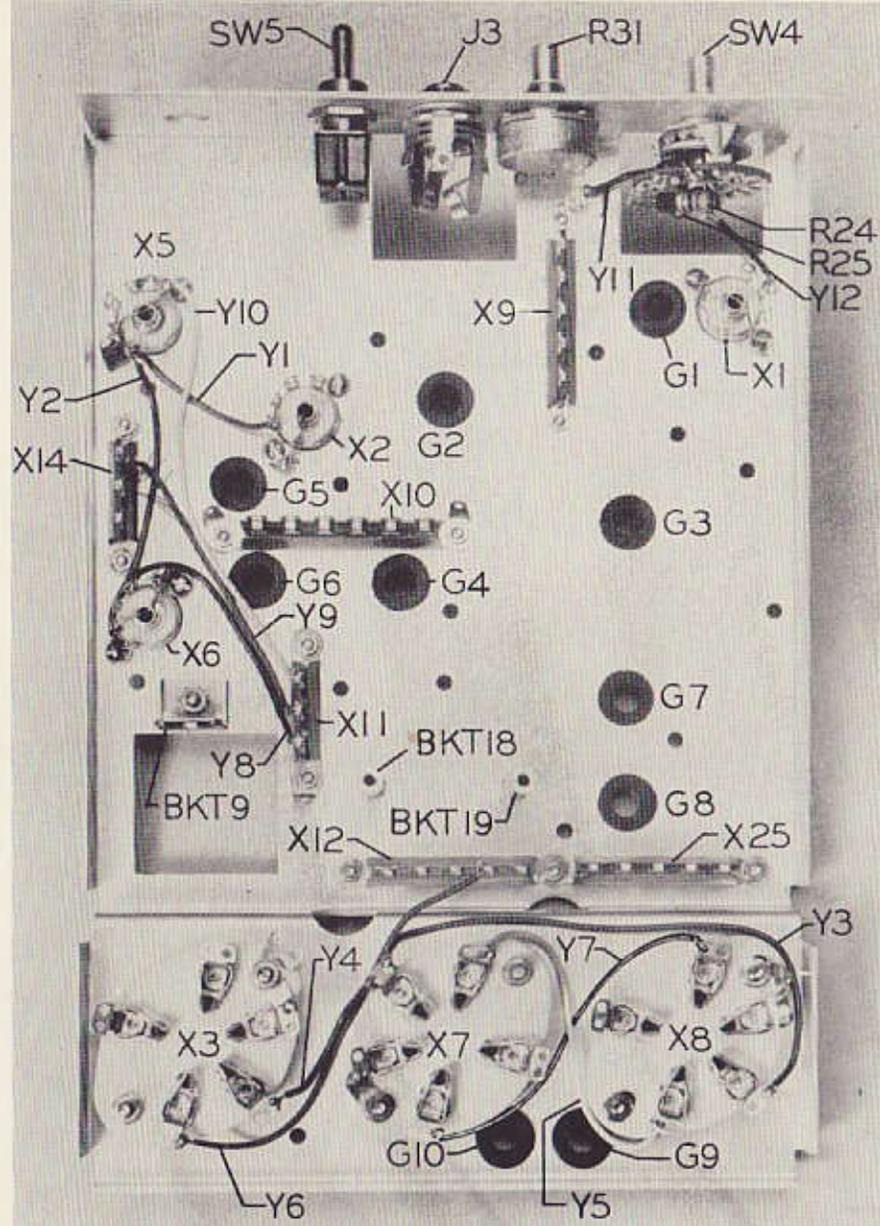

FIG. 1A BOTTOM CHASSIS
- (1) Make the two changes listed in c.
- (2) Remove the jumper between the middle terminal and the second terminal from the rear on terminal strip, X9, (Figure 1A).
- (3) Move the connection of L3, a single pi RFC, from the middle terminal on X9 to the second terminal from the rear on X9.
- (4) Run a connecting lead from the VFO power socket J4, pin 3, to the middle terminal on X9. Solder all connections of parts (2) through (4).